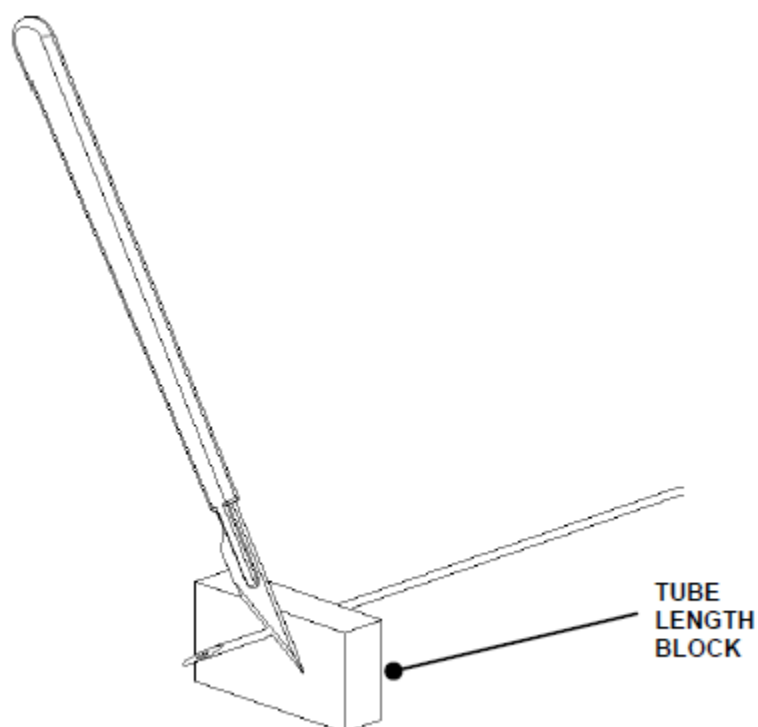

Figure O-9: Threading and Cutting the Tube
2. Rotate the Ferrule around the tube 3 or 4 times to seat the gripper onto the tube correctly. Then, thread the cut (pointed) end of the tube through the Pipettor Tube Length Block (DS2FIX012) until the Ferrule is seated in the block's counter-bore as shown in Figure O-9. With the scalpel, cut the excess tube off the cut (pointed) end of the tube flush with the cutting face of the block.